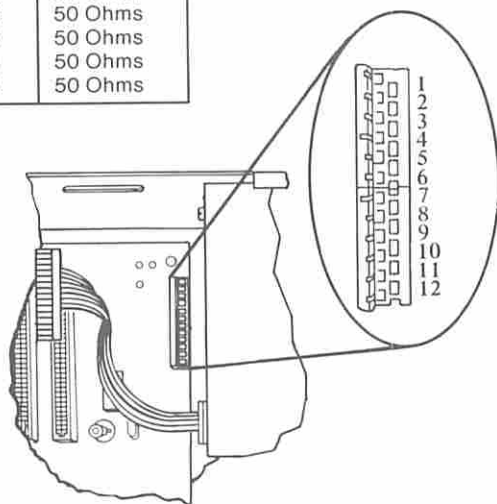

Figure 4. Resistance Check
- Disconnect the expansion board power connectors and take resistance measurements on the expansion board pins listed in Figure 4.